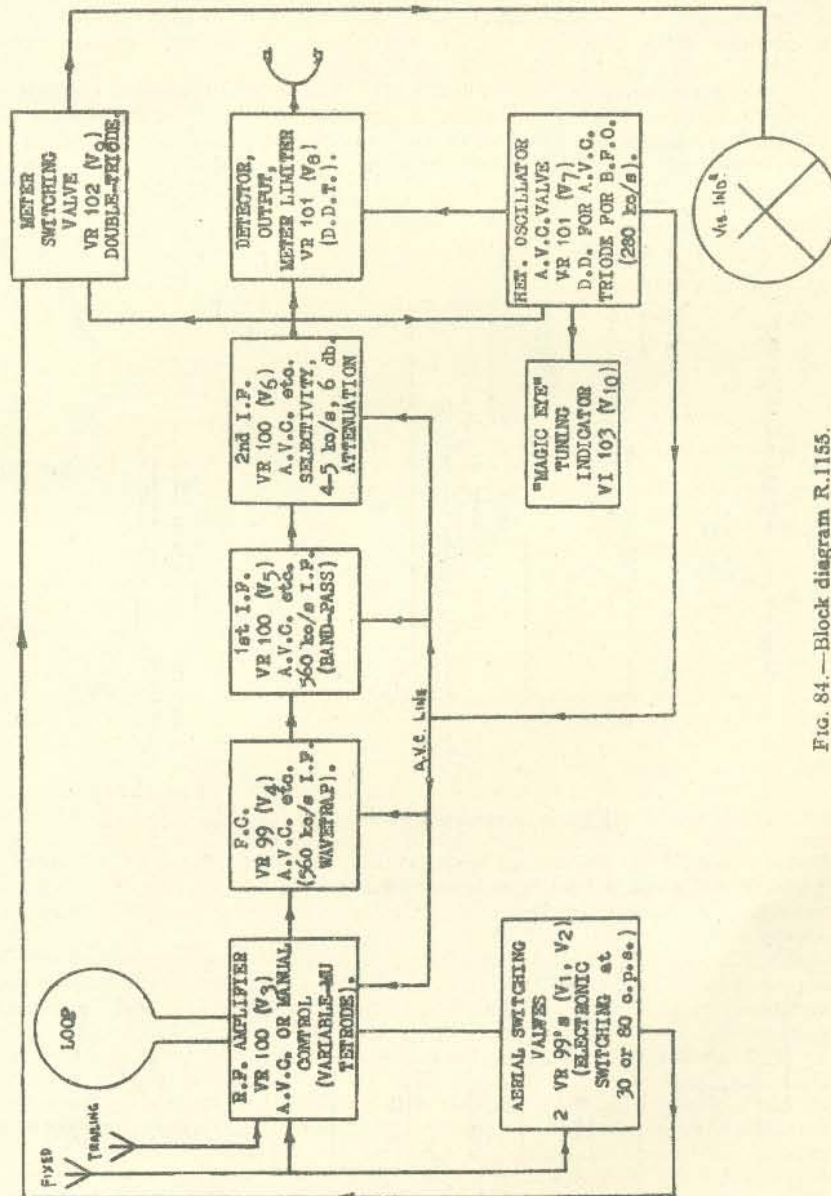

FIG. 84.—Block diagram R.1155.
6. **Circuit** (a schematic diagram is at fig. 84).—(1) *Communication circuits*.—(a) The R.F. amplifier is a vari-mu R.F. tetrode having a tuned grid circuit, and a tuned transformer coupling to F.C. A.V.C. or manual gain control is available.